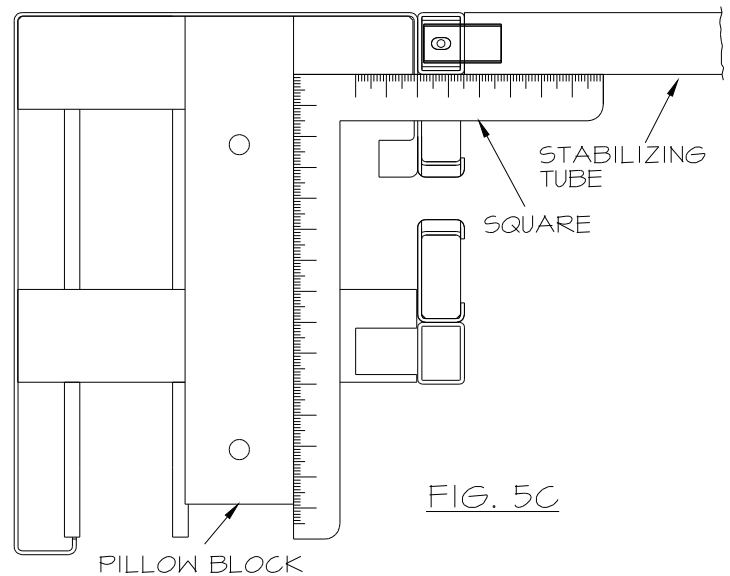

FIG. 5C
- Check for square at top of each Upright (Figure 5c).